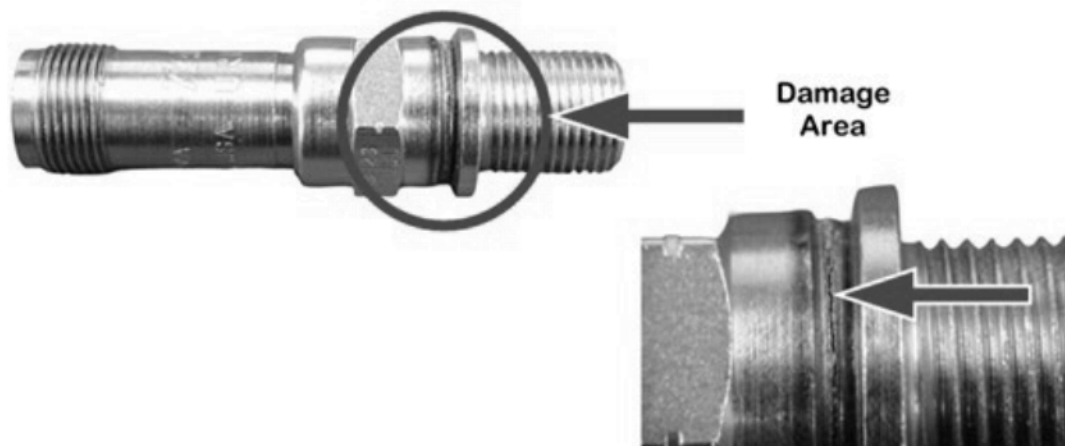

Figure 1: The suspected area of damage on the spark plugs
Federal Aviation Administration (FAA) Description of Airworthiness Concern On July 27, 2026, the FAA received notification of a failed Tempest spark plug, part number (PN) UREM38E, which was discovered following an event of engine roughness and subsequent partial loss of power. Service Difficulty Report (SDR) ECPR20260731001 is enclosed for reference. Further inspection by the operator revealed full separation between the spark plug's seat and hexagonal nut, also known as the hot lock assembly. The FAA identified similar SDRs which were recently submitted to report circumferential cracking on new or low time Tempest spark plugs. Upon notification of the issue, Tempest released Service Bulletin (SB)-012 dated August 7, 2026, which is also provided as an enclosure. The service bulletin recommends immediate visual inspection before further flight of Tempest spark plugs manufactured between May 5, 2026 through July 29, 2026, and provides a list of suspect part and lot numbers. The service bulletin also provides illustrations of the suspect area to inspect for cracking, which is also shown in Figure 1. Failed spark plugs may lead to damage to the engine, possible loss of power, and subsequent loss of control of the aircraft. The FAA is currently investigating this concern.